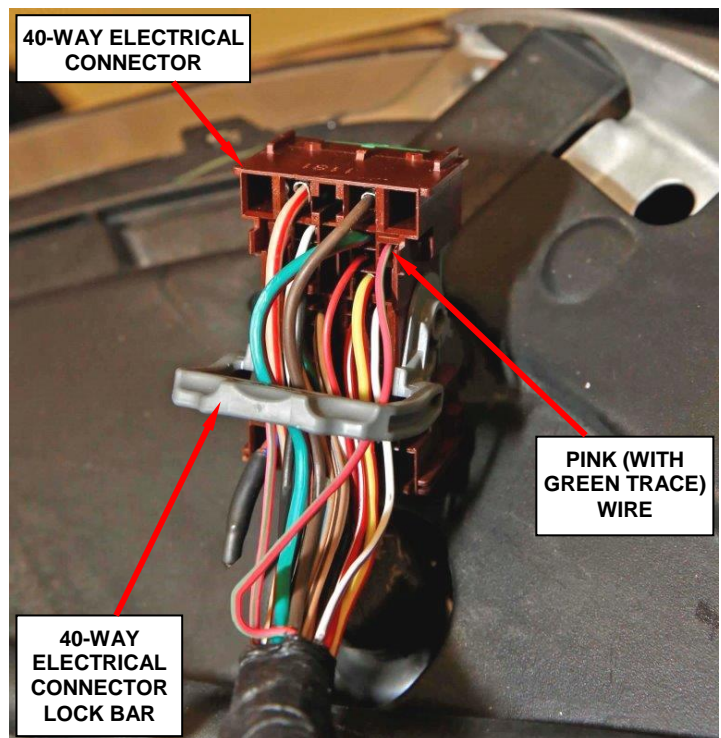

Figure 25 – Pink (with Green Tracer) Wire Location
- 20. Locate the pink (with green trace) wire in cavity 38 of the 40-way electrical connector (Figure 25).